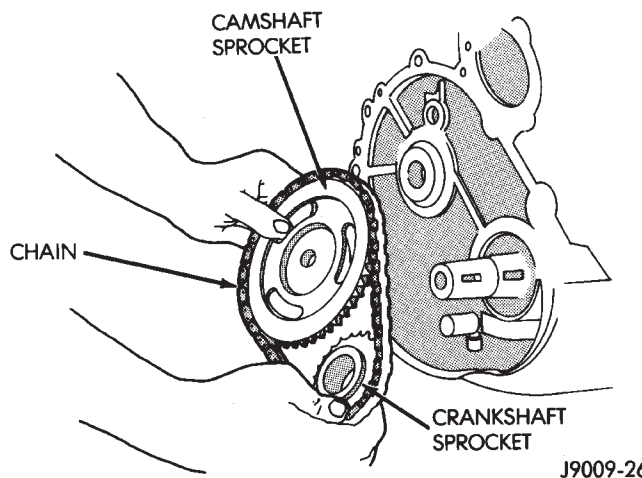

Fig. 46 Camshaft and Crankshaft Sprockets and Chain
- (7) Remove the oil slinger from the crankshaft.
- (8) Remove the camshaft retaining bolt and remove the sprockets and chain as an assembly (Fig. 46).
- (9) To replace the timing chain tensioner, the oil pan must be removed.